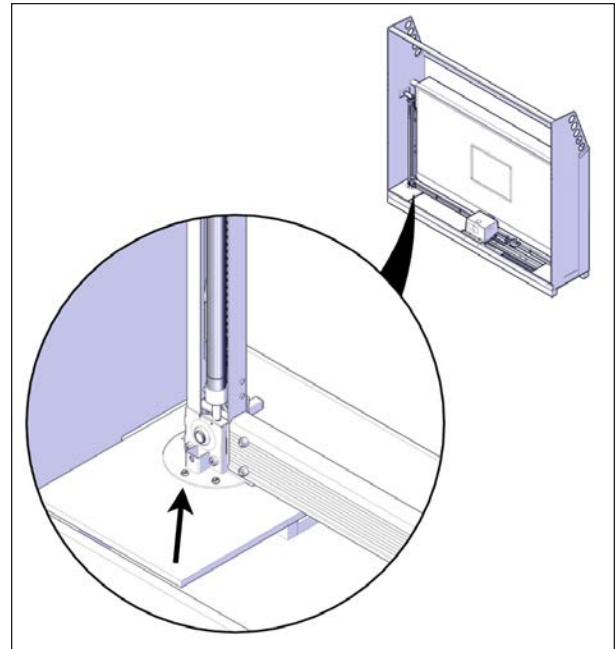

FIGURE 25: REMOVE BOTTOM SCREWS ON JACKS
7. Use the 3/8" (10 mm) socket wrench to unscrew the hexagonal 1/4" x 2" lag bolts on the bottom of both jacks. There are two lag bolts per jack Figure 25.